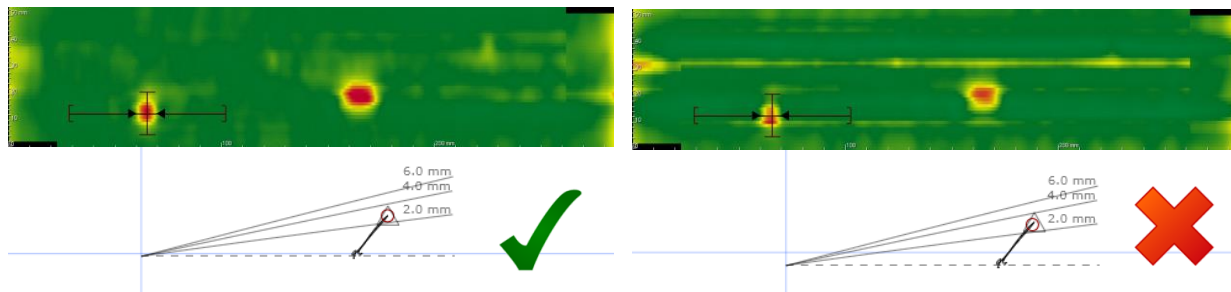

Figure 63. Correct and incorrect user material calibration
- III) Verify that the user material calibration has been done properly around the defect (see Figure 63).